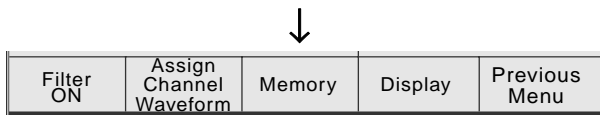

Figure 11-2. Main menu, page 2
You will see page 2 of the main menu (Figure 11-2).
- Press **F3** **Memory** (Figure 11-2).
- Press **F5** **Next Menu** in the main menu to display page 2 (Figure 11-2).